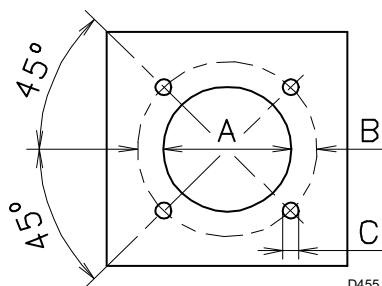

Fig. 6
5.3 Boiler plate (Fig. 6)
Drill the combustion chamber locking plate as shown in Fig. 6. The position of the threaded holes can be marked using the thermal screen supplied with the burner.